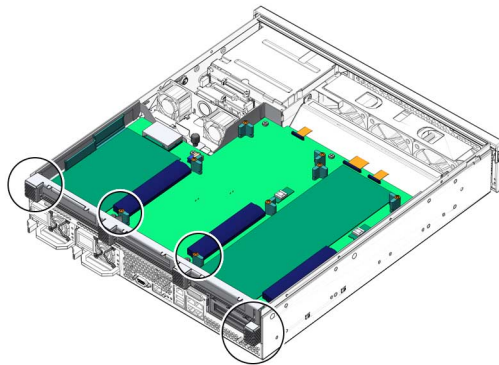

FIGURE 3-63 PCI Tray and Location of PCI Card Securing Screws
2. Identify the PCI-X card to remove, loosen the appropriate securing screw (FIGURE 3-63), and twist the green retention latches away from the card.
2. **Determine where you will install the PCI-X card and loosen the appropriate securing screw** (FIGURE 3-63).